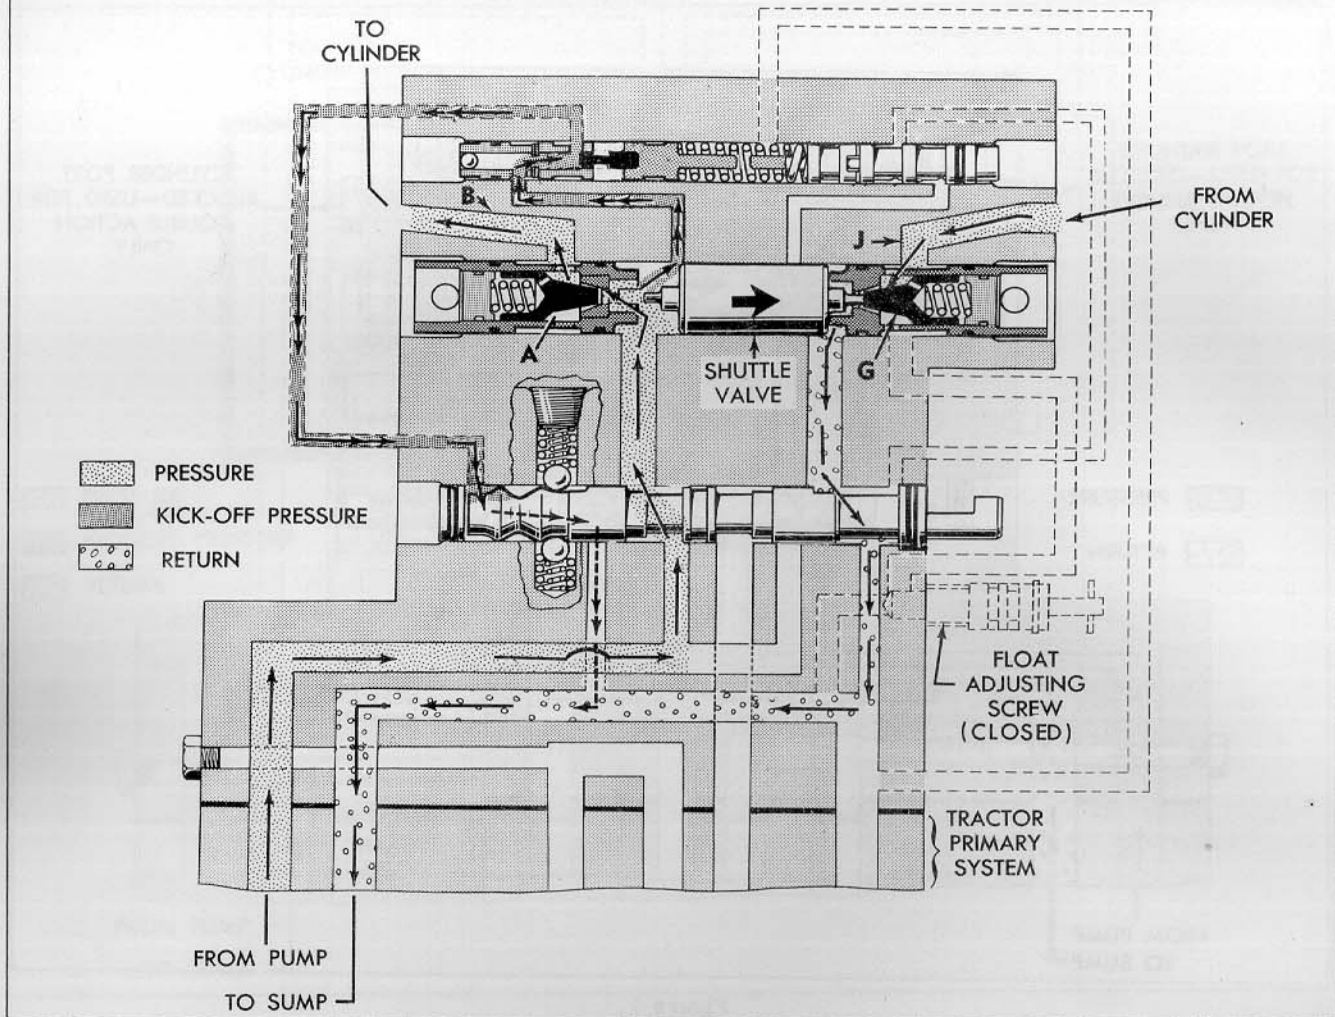
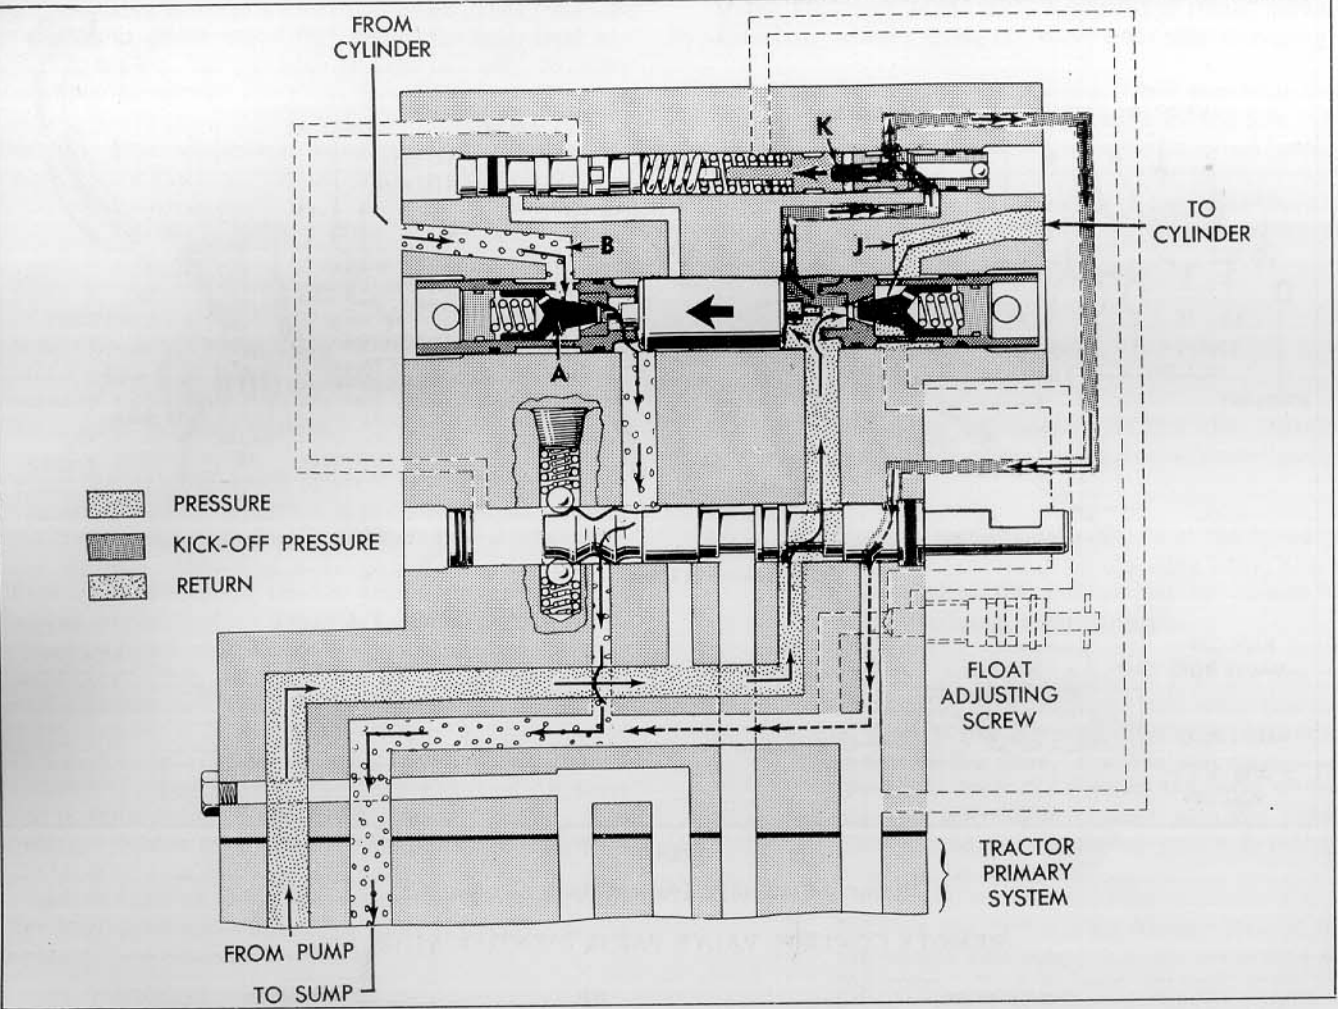

Figure 4
Figure 5
When the remote valve is connected to operate a double acting cylinder, both cylinder ports in the valve are utilized. In a double acting capacity, the valve performs the same functions as in single acting applications except that the kick-off cycle which returns the control spool to neutral, works in the lower position as well as the raise position. The float adjusting screw, shown in Figure 4, is normally closed, but may be partially opened for certain applications such as those involving the dozer blade. See Page 7 for flow description. The various cycles for double acting operations are explained as follows.
as shown in Figure 1 for single acting applications. However, as shown in Figure 4, passage "J" is connected to the opposite end of the remote cylinder instead of being plugged as shown in Figure 1. Check valves "A" and "G" are both closed to return oil flow; therefore, there can be no movement of the cylinder.
**Raise and Kick-Off:** When the control spool is shifted to the "raise" or lift position as shown in Figure 4, oil is pumped to the remote cylinder from passage "B" in exactly the same manner as described previously for single action operation. However, at the same time, oil can now be unloaded from the opposite end of the remote cylinder through passage "J" and check valve "G" which opens a flow path back to the tractor sump as shown.
**Lower and Kick-Off:** When the control spool is shifted to the "lower" or drop position as shown in Figure 5, it will be noticed that oil flow has reversed from the flow shown in Figure 4.
In cases where the double acting remote valve application requires a floating of the cylinder in the lowered or drop position, the float adjusting screw shown closed in Figure 5, is opened and the control handle placed in the down or lowering position.
Pumped oil flowing past check valve "G" and to the cylinder port "J" lowers the cylinder as shown in Figure 5. In the insert to Figure 5, however, passage "H" also leading from the check valve is opened to passage "I" which permits part of the pumped oil to flow back to the tractor sump as shown. In this situation there is insufficient pressure build-up in the kick-off valve passages to cycle the control spool from "lower" to neutral and the control spool remains in the "lower" position. Since check valve "A" is held open by the